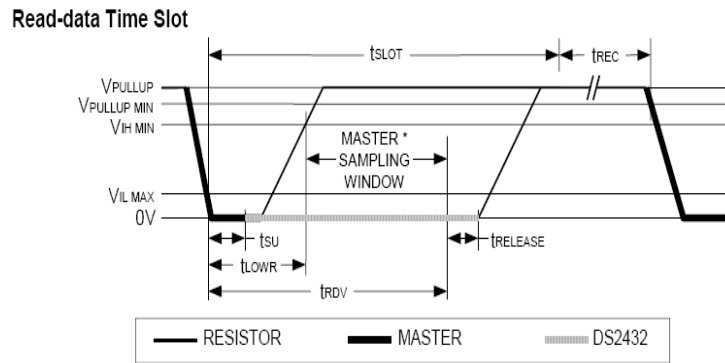

Fig4-98 - Read-data Time Slot
- (1) To initialize Write Data, Master will convert the Data Line from the high logic to the low.
- (2) There are two types of Write time slot: Write 1 time slot and Write 0 time slot.
- (3) During a write cycle, all Write time slots must have duration of at least 60µs and a recovery period of 1µs.
- (4) When the I/O line goes down, Slave devices create samples from 15-60 µs.
A. Write 0: If the sampling is low, 0 is generated as in Fig4-98: